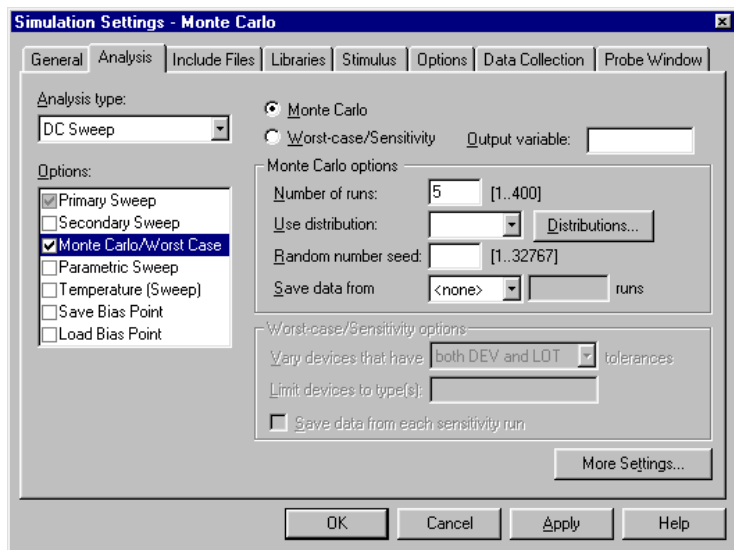

Figure 76 Monte Carlo analysis setup for EXAMPLE.DSN.
- 3 In Capture, set up a new Monte Carlo analysis as shown in Figure 76. The analysis specification tells PSpice A/D to do one nominal run and four Monte